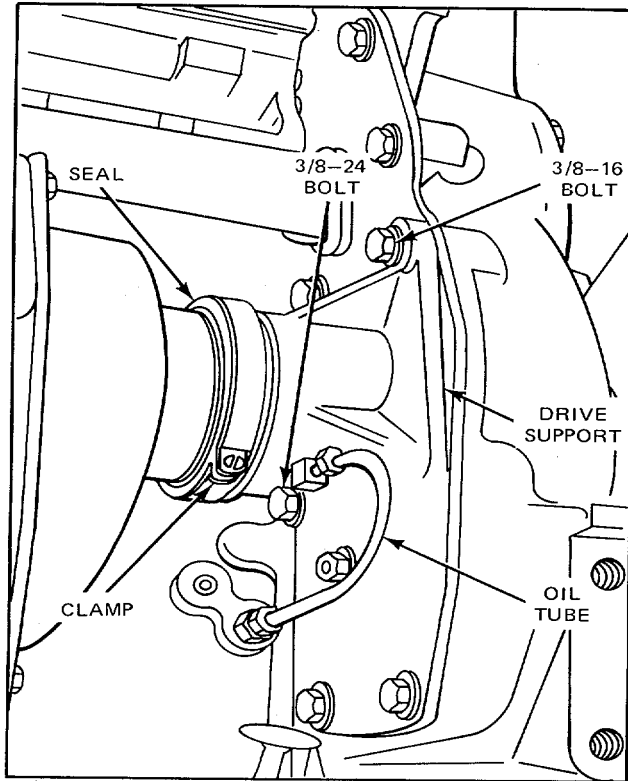

Figure 1. Blower Drive Support Mounting on 4-53 In-Line Engine
2. Refer to Fig. 1 and loosen the blower drive seal clamp.
2. Disconnect the lubricating oil tube (Fig. 1) from the blower drive support.